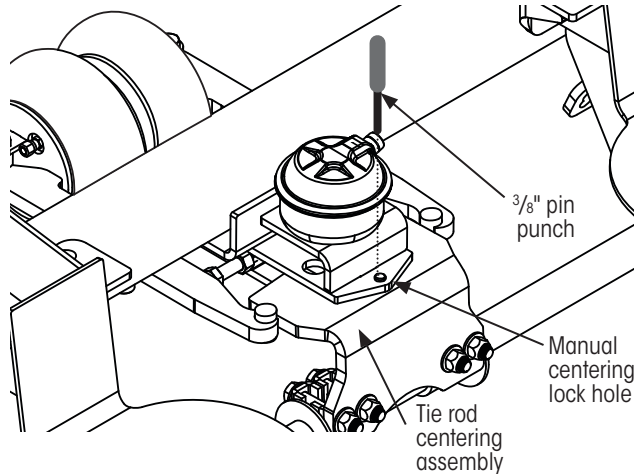

Figure 29: Locking wheels to straight position
3. Center wheels and insert a 3/8 inch pin punch (or equivalent) into manual centering lock holes, as shown in Figure 29.
5. **Remove** dowel pin from the centering lock hole (Figure 29).